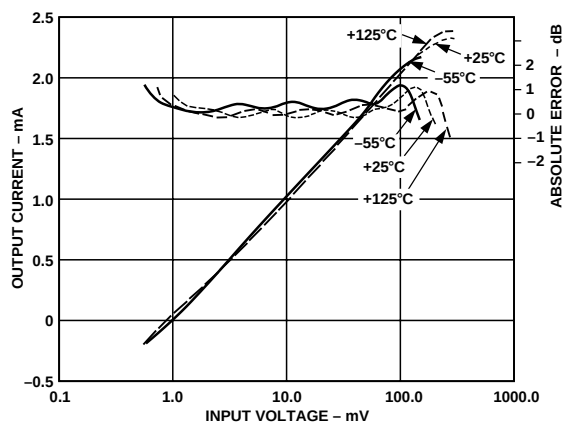
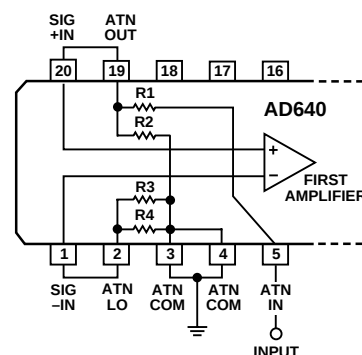

Figure 18. Logarithmic Output and Absolute Error vs. DC or Square Wave Input at $T_A = -55^\circ\text{C}$, $+25^\circ\text{C}$, Input Direct to Pins 1 and 20
Figure 26. Details of the Input Attenuator
The logarithmic function of the AD640 is absolutely calibrated to within ± 0.3 dB (or ± 15 μA) for 2 kHz square-wave inputs of ± 1 mV to ± 100 mV, and to within ± 1 dB between ± 750 μV and ± 200 mV. Figure 18 is a typical plot of the dc transfer function, showing the outputs at temperatures of -55°C , $+25^\circ\text{C}$ and $+125^\circ\text{C}$. While the slope and intercept are seen to be little affected by temperature, there is a lateral shift in the endpoints of the “linear” region of the transfer function, which reduces the effective dynamic range. The cause of this shift is explained in Fundamentals of Logarithmic Conversion section.
In applications where the signal amplitude is sufficient, the on-chip attenuator should be used because it provides a temperature independent dynamic range (compare Figures 18 and 19). Figure 26 shows this attenuator in more detail. R1 is a thin-film resistor of nominally 270 Ω and low temperature coefficient (TC). It is trimmed to calibrate the intercept to 10 mV dc (or -24 dBm for sinusoidal inputs), that is, to an attenuation of nominally 20 dBs at 27°C. R2 has a nominal value of 30 Ω and has a high positive TC, such that the overall attenuation factor is 0.33%/°C at 27°C. This results in a transmission factor that is proportional to absolute temperature, or PTAT. (See Intercept Stabilization for further explanation.) To improve the accuracy of the attenuator, the ATN COM nodes are bonded to both Pin 3 and Pin 4. These should be connected directly to the “SIG-